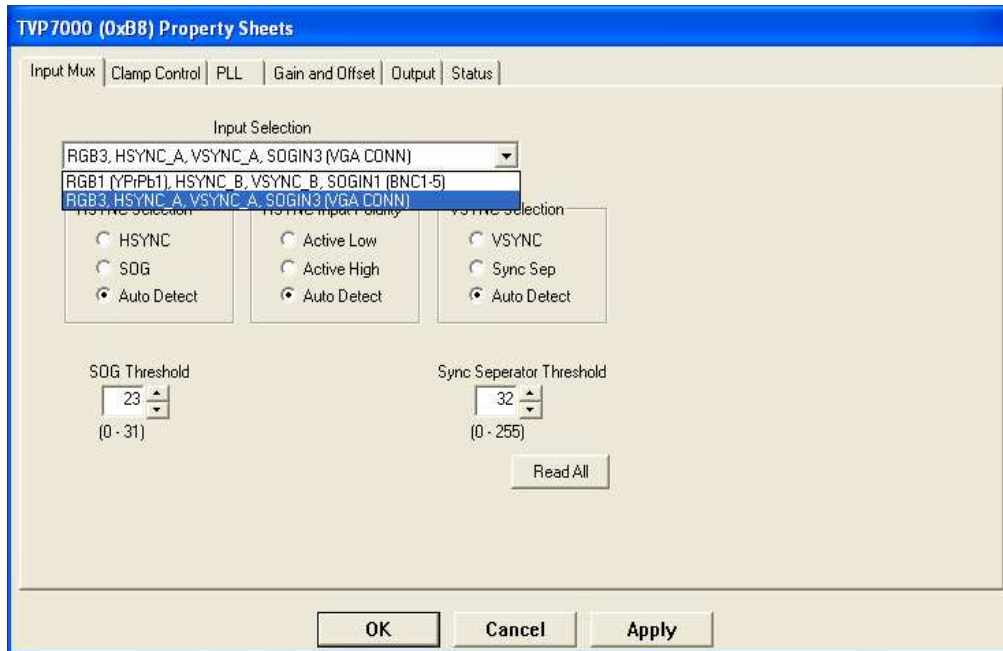

Figure 5. TVP7000 Property Sheets - Input Mux
8. To switch between inputs, select the input mux page, see Figure 5. Click the input selection drop down box. You can then select VGA input, or BNC1-5 input. The initialization file supplied with the TVP7000 EVM assigns PC graphics to the VGA connector and video to the BNC connectors. Video inputs can use either the dedicated HSYNC and VSYNC BNC connectors or composite SOG/Y present on the video input.